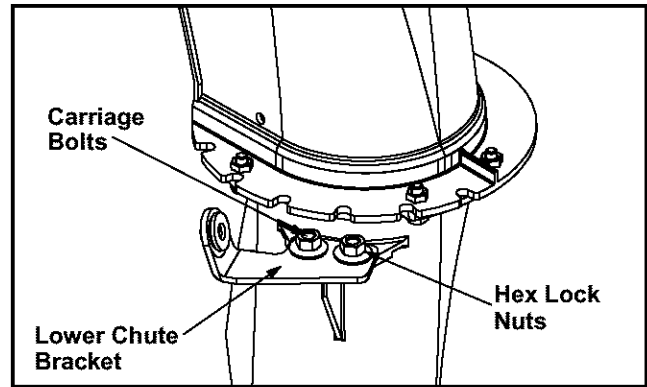

Figure 7
- To align the spiral on the chute directional control, it may be necessary to loosen the carriage bolts and hex lock nuts which secure the lower chute bracket to the extension on the left side of the chute assembly. See Figure 7.